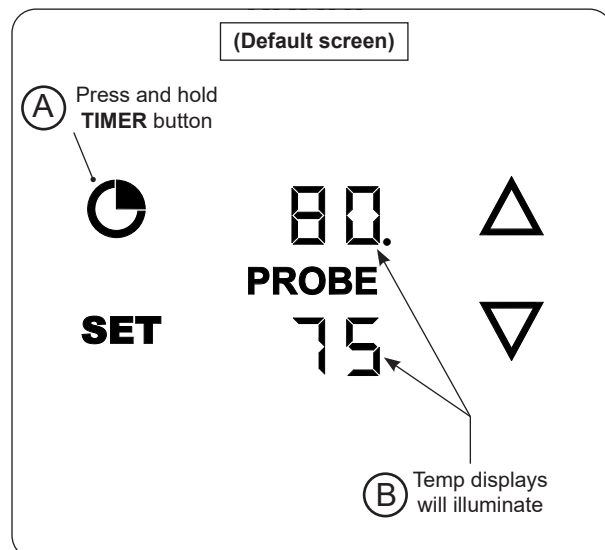

Fig. 38-1 Turn on thermometer/thermostat
3. Press and hold the **TIMER** button (Fig. 38-1, A) until the remainder of the displays illuminate (Fig. 38-1, B). This is the “**default screen**”. The default screen displays your temperatures. The top display is the grilling temperature, and the bottom display is the meat probe temperature (if plugged in).